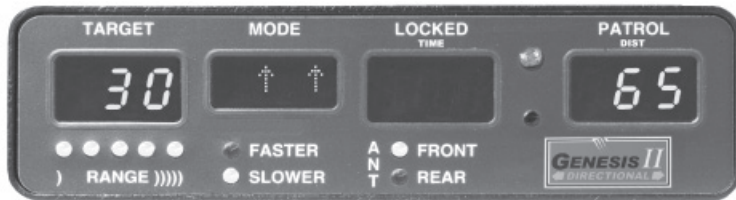

Figure 9.5b
9. The speeds should match those in Figure 9.5b 9.5c and 9.5d.